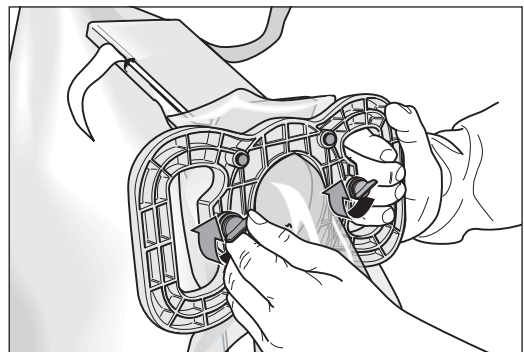

Fig. 22 Attach the emptying fixture to the dust bag.
- 13 Attach the emptying fixture to the dust bag by turning the two quick-release fasteners 90° clockwise (Fig. 22).